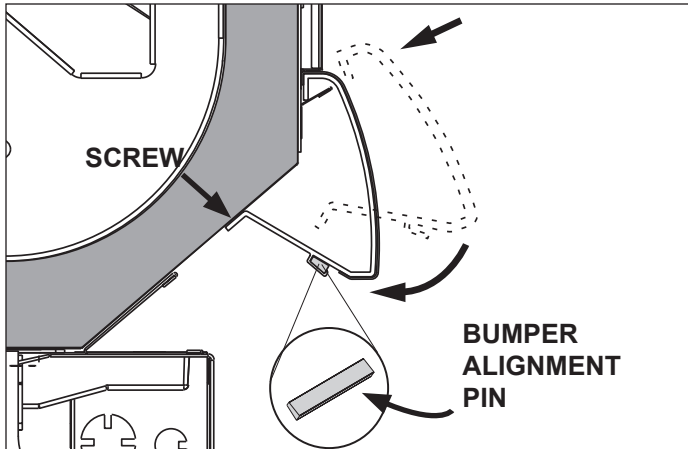

Fig. 7 Steamlyne bumper alignment pin
- Place the hook of the Streamlyne bumper on the lip of the master bumper bracket and rotate the bumper down while pushing it in (Fig. 7). When the top edge of the bumper has slipped under the color band, be certain that it is pushed in as far as it will go.